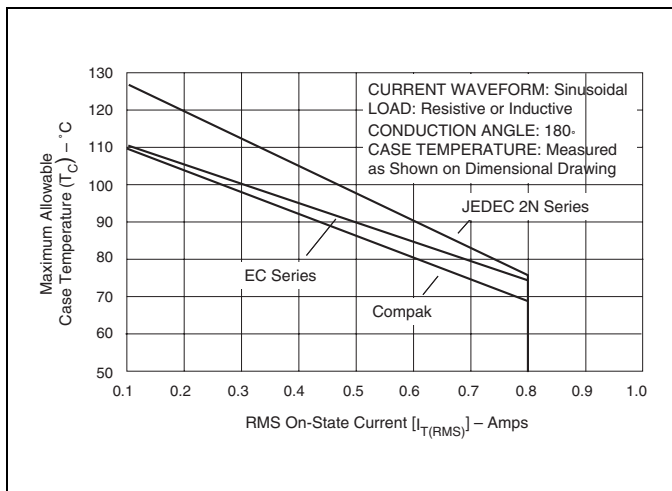
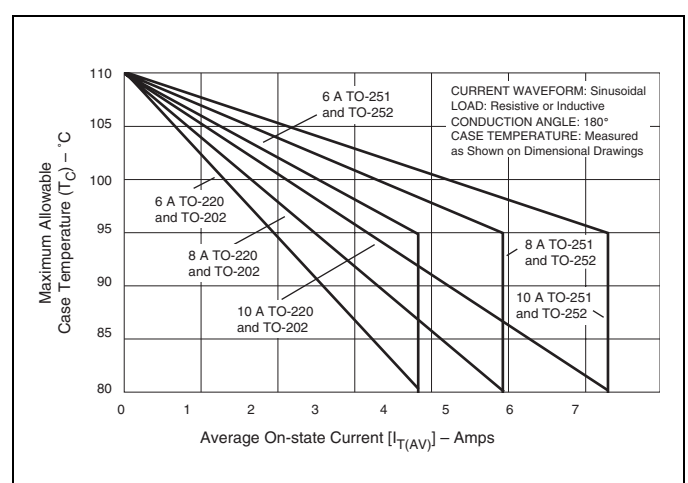
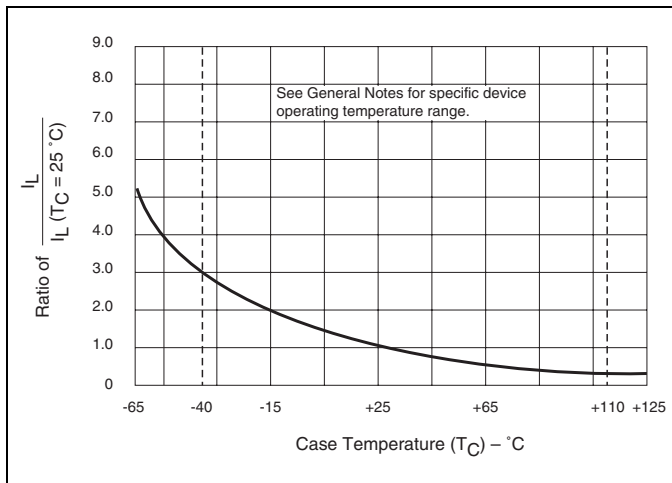

Figure E5.1 Maximum Allowable Case Temperature versus RMS On-state Current
Figure E5.9 Maximum Allowable Case Temperature versus Average On-state Current
Figure E5.18 Normalized DC Latching Current versus Case Temperature
- (1) See Figure E5.1 through Figure E5.9 for current ratings at specified operating temperatures.
- (13) See Figure E5.1 through Figure E5.9 for maximum allowable case temperature at maximum rated current.
- (14) I_{GT} = 500 μA maximum at T_C = -40 °C for T106 devices
- (15) I_H = 10 mA maximum at T_C = -65 °C for 2N5064 Series and 2N6565 Series devices
- (16) I_H = 6 mA maximum at T_C = -40 °C for T106 devices
- (17) Pulse Width ≤ 10 μs
- (18) I_{GT} = 350 μA maximum at T_C = -65 °C for 2N5064 Series and 2N6565 Series devices
- (19) Latching current can be higher than 20 mA for higher I_{GT} types. Also, latching current can be much higher at -40 °C. See Figure E5.18.
- (20) T_C or T_L = T_J for test conditions in off state
- (21) I_{DRM} and I_{RRM} = 50 μA for 2N5064 and 100 μA for 2N6565 at 125 °C
- (22) TO-92 devices specified at -65 °C instead of -40 °C
- (23) T_C = 110 °C